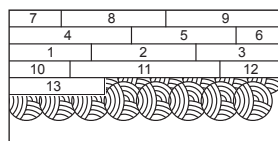

Figure 17
- Be sure not to spread adhesive too far ahead of your work area (Figure 17).